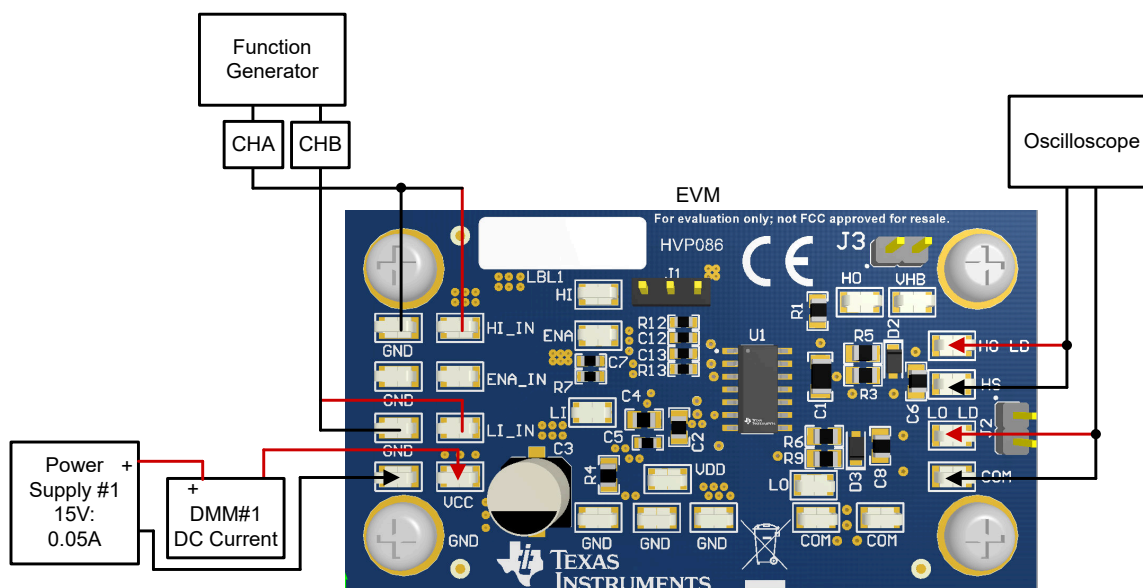

Figure 5-1. Bench Setup Diagram and Configuration
This procedure details how to configure the UCC27735Q1EVM evaluation board. Within this test procedure, the following naming conventions are applied. Refer to the UCC27735Q1EVM *Bench Setup Diagram and Configuration*, Figure 5-1, for details.
Use the following connection procedure, refer to Figure 5-1.
- Before beginning the power up test procedure, verify the connections with Figure 5-1.